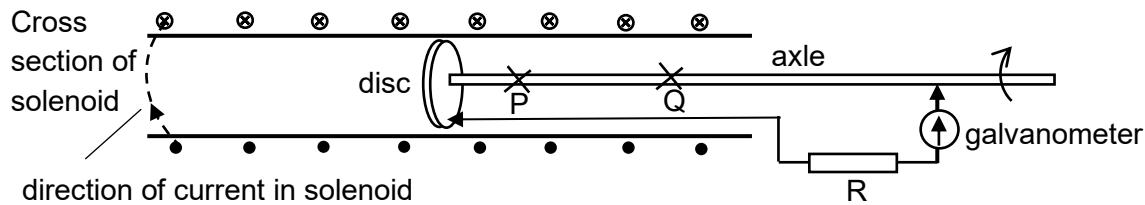

Fig. 6.1
- 6 Fig. 6.1 shows a long solenoid which has a small copper disc mounted at its centre.
The disc spins on a conducting axle which lies along the axis of the solenoid. The solenoid is connected in series with a d.c. supply and the direction of the current in the solenoid is as shown in Fig. 6.1. One end of the resistor is connected to the rim of the disc through brushes. The other end is connected to a galvanometer.
- (a) (i) Indicate the direction of the induced current between point P and Q with an arrow on Fig. 6.1.